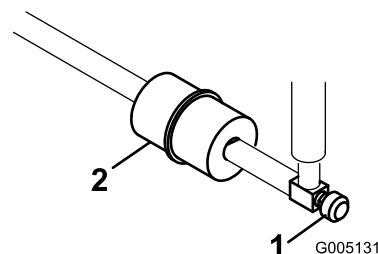

Figure 53
An in-line filter is incorporated into the fuel line between the fuel tank and carburetor (Figure 53). Replace the filter every 800 hours or sooner if the fuel flow is restricted. Be sure the arrow on the filter is pointing away from the fuel tank.
- Close the fuel shut off valve, loosen the hose clamp on the carburetor side of filter, and remove the fuel line from the filter (Figure 53).
- Place a drain pan under the filter, loosen the remaining hose clamp and remove the filter (Figure 53).